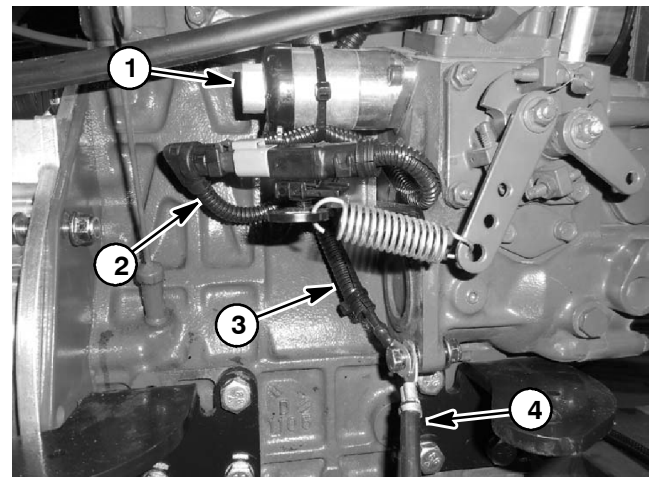

Figure 12
- D. The negative battery cable and wire harness ground at the engine block under the fuel actuator (Fig. 12).